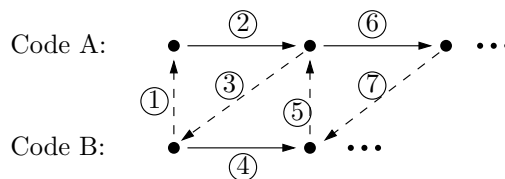

Figure 17: Serial coupling algorithm with leading Code A.
Figure 17 shows the serial coupling algorithm, where Code A leads the coupling, known as “leading code”. Knowing the fact that the coupling begins with initial conditions from the lagging code (Code B), the code with more stable and better known initial conditions should be chosen as the lagging code. In Figure 17, Code B sends its data for the first coupling step to Code A (1) to lead the simulation. After Code A finished computation (2), it sends its data from the first coupling step (3) and then waits to receive data for the second coupling step. Now, Code B got its data and starts computing the second coupling step (4), then sends data to Code A (5), which can then start its second coupling step calculation (6). At the end it sends the resulting data (7) and Code B can start the next coupling step.